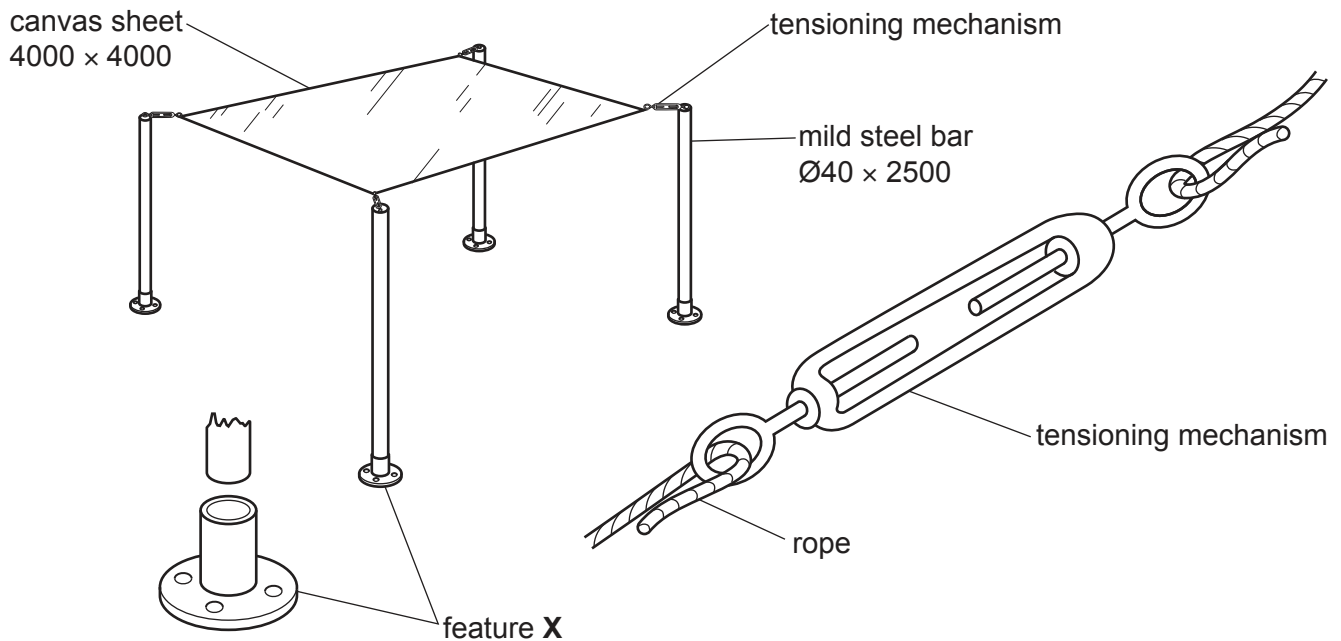

Fig. 4.1
- 4 Fig. 4.1 shows details of an incomplete design for a sail to provide shade in a school playground.